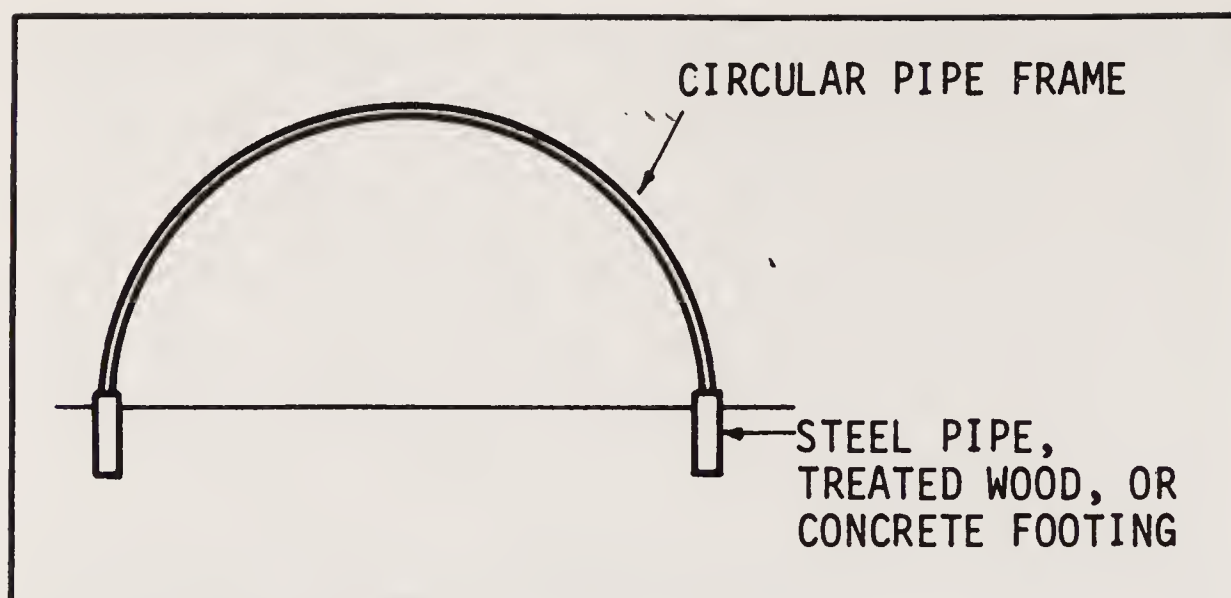

Fig. 1-3. Quonset frame detail.
**Quonset.** Quonset greenhouses (Fig. 1-3) have the same general shape as the Quonset huts of World War II. They have simple and efficient construction using thin-wall electrical conduit for houses up to 10 to 12 feet wide or galvanized steel pipe commercially formed for wider houses up to 36 or 40 feet. They are primarily constructed using plastic covering which is applied externally. Strong fastening at the ends and edges is very important. Various types of extruded metal bars with rod inserts and screw-down clamps are available. Double-layer plastic is recommended for covering.